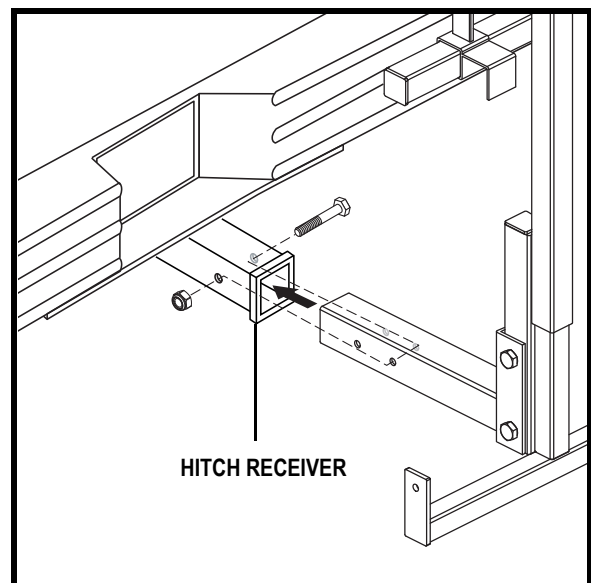

Figure 2. Lift Frame Vehicle Mounting
2. Slide the hitch tube into the vehicle hitch receiver, aligning the mounting hole closest to the lift with the mounting hole in the hitch receiver. See figure 2.
3. Secure the hitch tube with the supplied bolt and nut, inserting the bolt from the passenger's side through to the driver's side of the hitch. See figure 2.